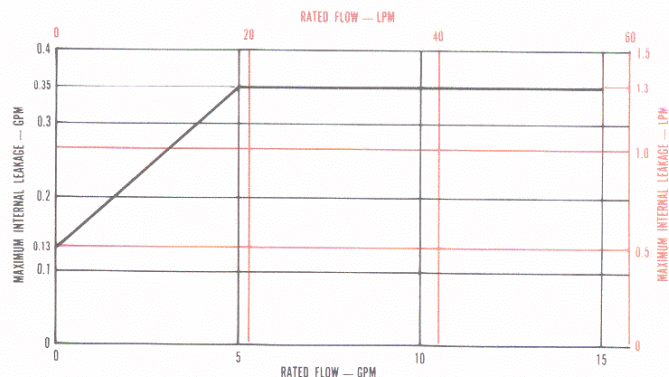

FIGURE 3 MAXIMUM INTERNAL LEAKAGE
**INTERNAL LEAKAGE** Maximum internal leakage is determined by the valve rated flow. Figure 3 shows the maximum leakage at 1000 psi (70 bars) supply for typical 750 Series Servovalves.